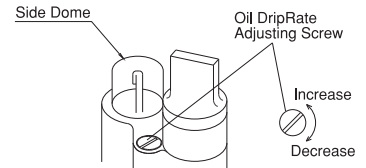

Fig.13
### ③ Adjusting the Oil Drip Rate (Fig.13)